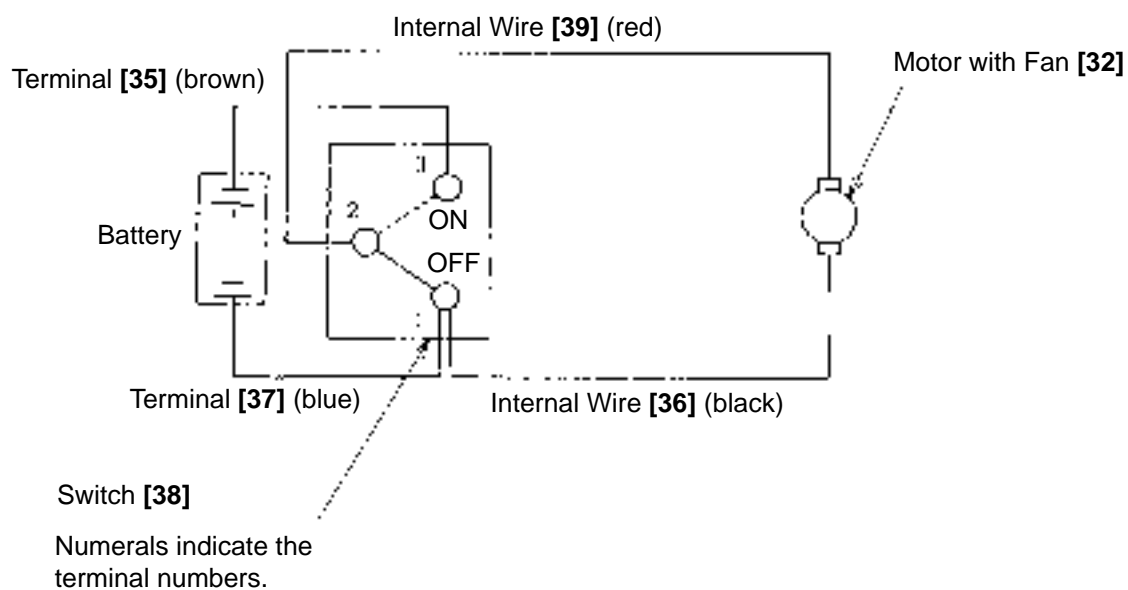

Fig. 11
- (a) Be sure to perform wiring according to the wiring diagram (Fig. 11).